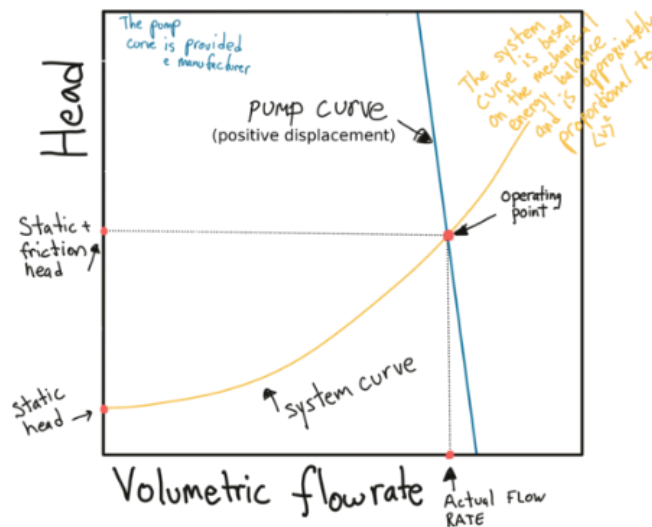

Figure 11: Pump and system curves with operating point based on field testing.
- For pumps, check the operating point using flow and pressure readings, and plot with the manufacturer's pump curve, as shown in Figure 11.